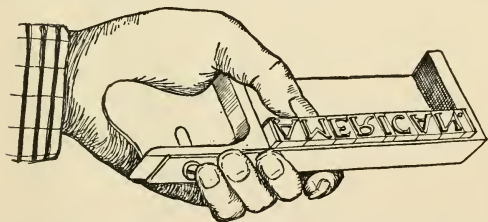

FIG. 152. — How to Hold the Composing-stick.
**A Composing-stick** is necessary. This should be held in the left hand, as shown in Fig. 152, while the right hand picks up the type one by one and drops them into the stick, where the left thumb shoves them into place. It will be seen by looking